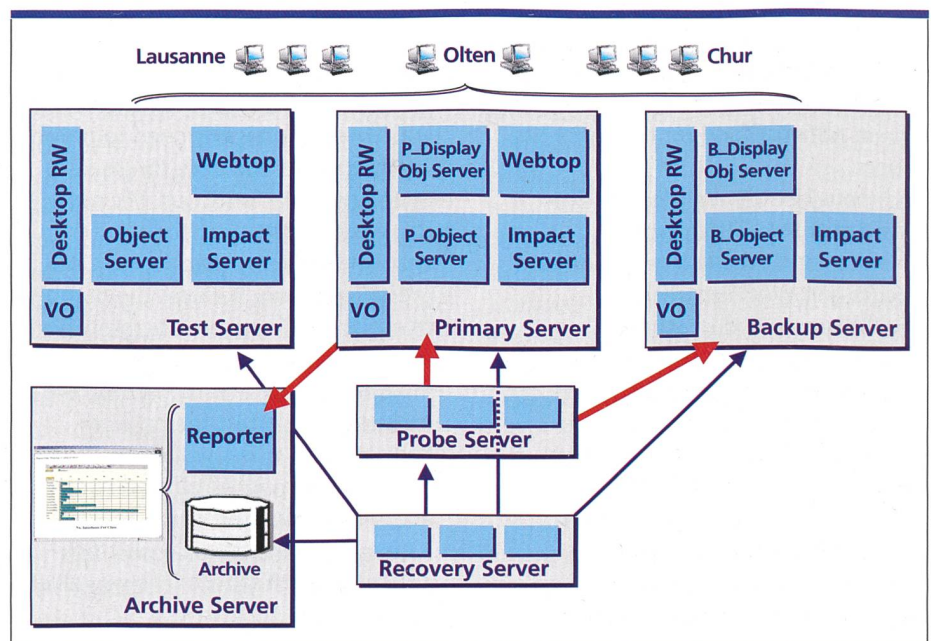

Fig. 4. SW Architecture.
The SW architecture for CAM is based up on Netcool from Microbes. The basic idea behind Netcool is to gather management information as close to the managed system as possible. For this purpose, so-called „Probes“ are installed on the vendor-specific NM OSSs from where the relevant information is collected directly. If this is not possible, the Probe Server plays this role for the Object Server and collects the management information on the target system. If necessary (i.e. if a Probe cannot be installed), the Probe Server uses the Simple Network Management Protocol (SNMP) and polls the appropriate SNMP Agents (SNMP traps). The Object Server is divided in a Core Server (in fig. 4 „P\_Object Server“) and a Display Server („P\_Display Obj Server“). The Webtop as the graphical interface exists on the Primary Server only (non-redundant).
The Virtual Operator (VO) is a SW module from Micromuse, which allows running routines in case of particular alarm situations (fig. 4). It is able to launch pre-